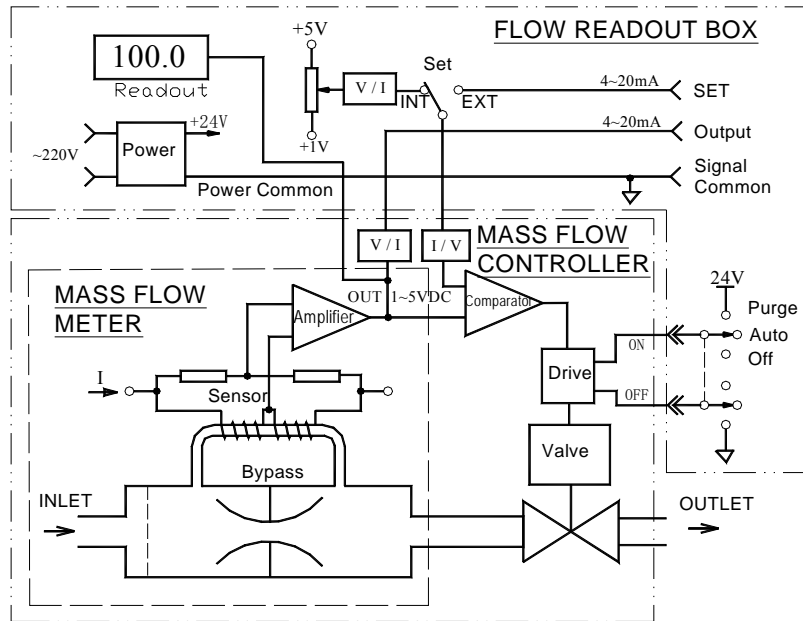
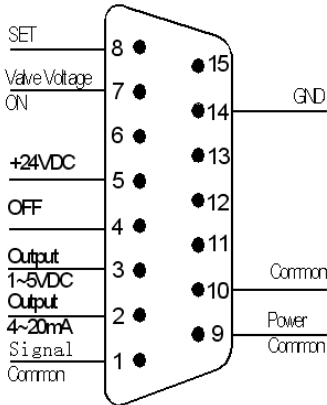
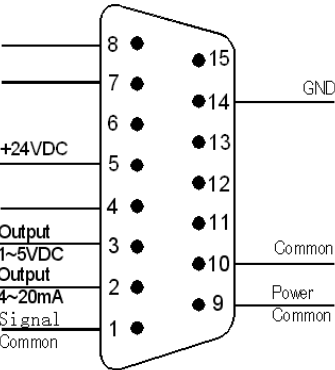
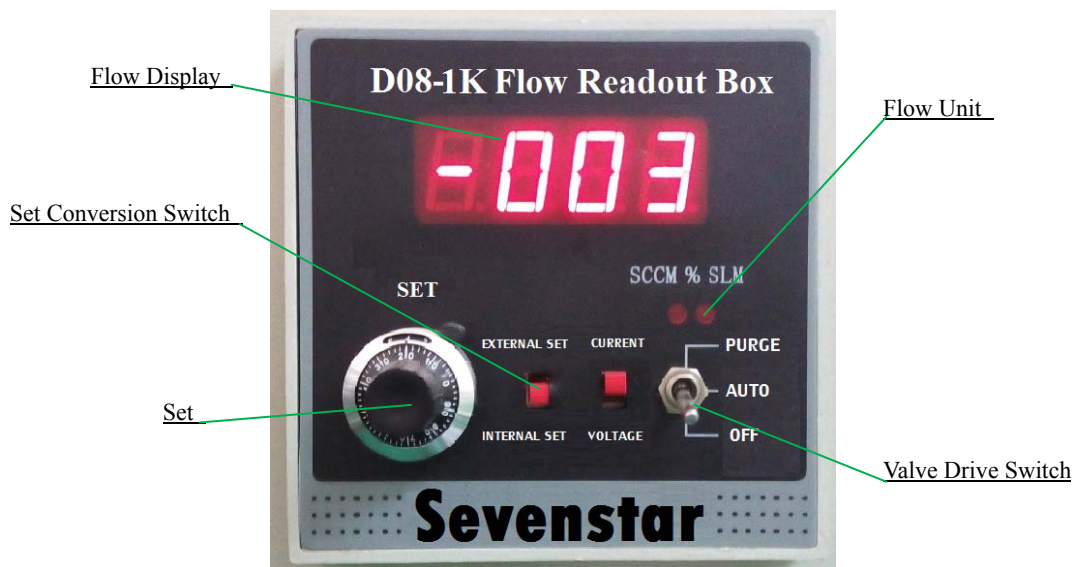

Figure2. Principle of MFC
Figure 5. Connection of D07-60G MFC Electrical Interfacing
Figure 6. Connection of D07-60GM MFM Electrical Interfacing
Figure 10. Flow Readout Box Operating Panel
According to the Capillary Heat Transfer Temperature Difference Calorimetry Theory, the flow sensor measures the mass flow without pressure compensation. The sensor heated the flow signal which was measured by electric bridge and amplified it through amplifier, the amplified flow testing voltage is compared with presetting voltage, the differential signal will control valve after amplified, then the flow rate of closed loop control will be as same as presetting flow rate. The bypass divider controls the flow rate. The corresponding D08 series Flow Readout Boxes have stabilized power supply, 3 and 1/2 digital voltage meter, presetting potentiometer, external & internal converters and three-phase switches. Figure 2 is exactly showing the operating principle while MFC is connecting with Flow Readout Box.
MFC could begin operating after it was well connected with professional cable and corresponding Flow Readout Box. The electrical interfacings of each MFC and MFM are showing as following figures (Figure 5 ~ Figure 6).
5.1.1 Start up (Reference to Figure 10)
Please find the reference in Figure 5 and Figure 10, it should set the switch of Readout Box to the "External" and turn the switch to the position of "CONTROL", and then startup PC.
When "OFF" wire connected to "0V", the valve will be shutoff, please find the reference in Figure 2 and Figure 5. When "ON" wire connected to "+24VDC", the valve will be turned to the top of maximum to purge position; when "OFF" wire and "ON" wire both unconnected, valve will be turned to valve control position; Please don't connect "ON" and "OFF" at the same time. when "ON" wire and "OFF" wire work at the same time, the valve will be turn to purge position.